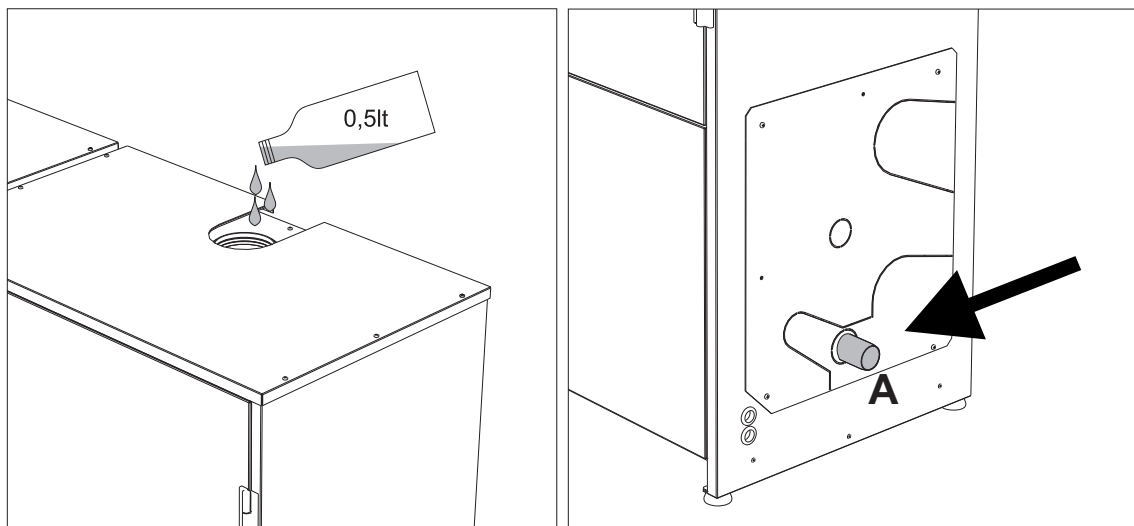

fig. 57- Condensate drain connection
2. Connect the boiler discharge pipe and condensate drain (A - fig. 57) to a disposal system.